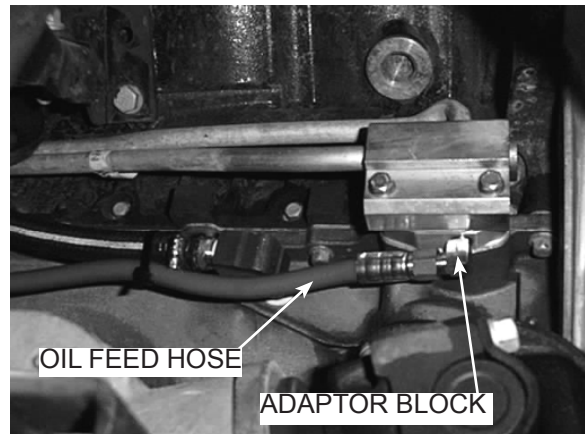

Fig. 6-a
- A. Remove the two screws holding the small casting or oil cooler block located directly above the oil filter. (Vehicles with oil coolers will appear the same as depicted in Fig. 6-a.)
- C. Using the adapter, the appropriate supplied gasket and the supplied longer 6mm screws, assemble the components as shown in Fig. 6-a.
- E. Route the oil feed line from the supercharger to the installed fitting. Use an adel clamp on the side of the oil pan and tie wraps to secure the oil feed and oil drain lines and protect them from kinking, abrasion and high heat areas. (See Fig. 6-a.)